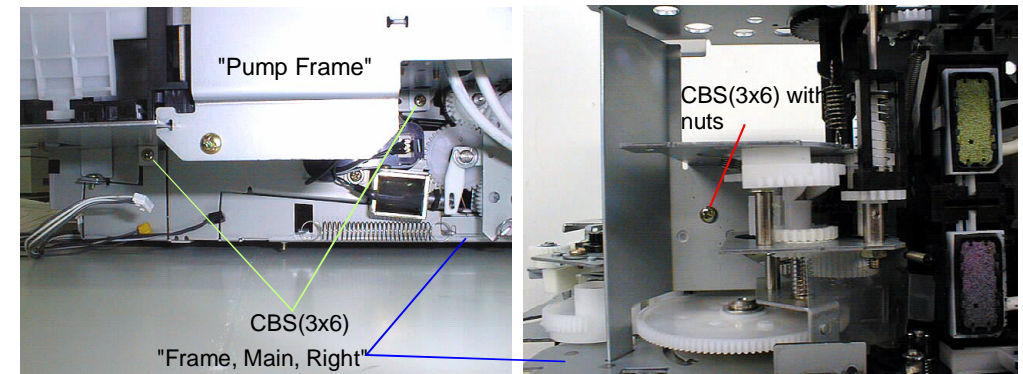

Figure 4-49. Pump Frame Removal
4. Remove 2 CBS screws(3x6) and one CBS screw with nuts(3x6) securing "Pump Frame" to "Frame, Main, Right". (Refer to Figure4-49)